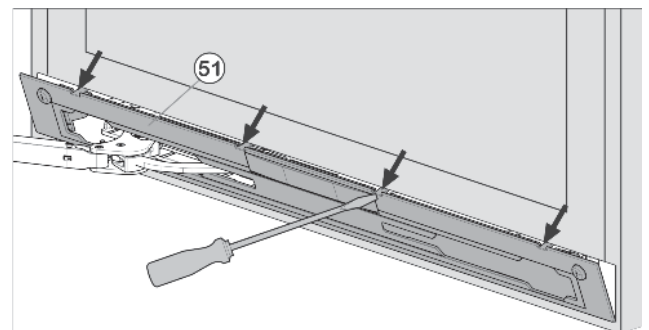

Fig. 15
▶ Release panel *Fig. 15 (51)* using slotted screwdriver and remove.